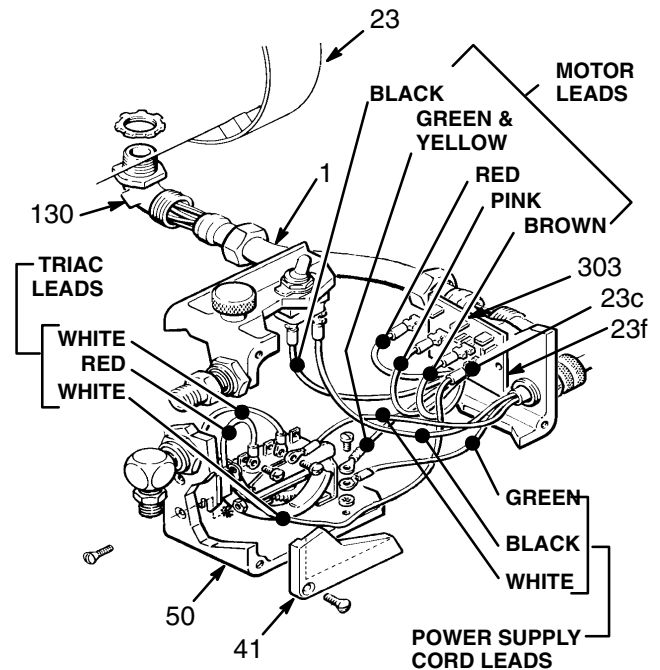

Fig 21
1. Remove the pressure control cover (41). Pull the board (23f) out carefully, just enough to reach the wire terminals. Disconnect the leads. Remove the board. See Fig 21.
3. Disconnect the motor leads. See Fig 21.
5. Pull the pressure control (50) away from the conduit while carefully guiding the leads through the connector (303) one at a time. See Fig 21.
9. Connect any other loose wires. See Fig 21.